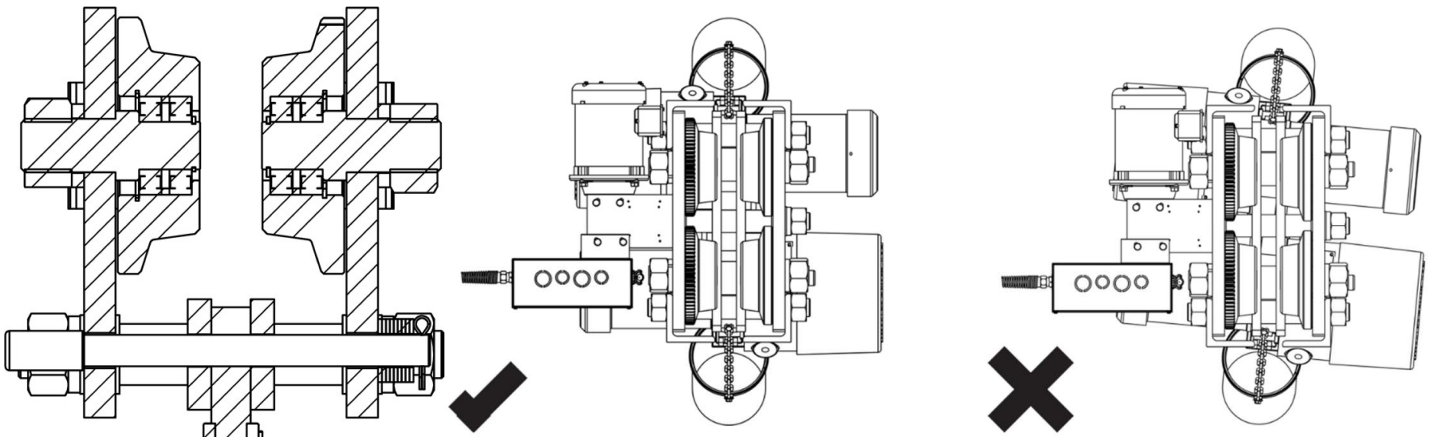

Figure 3.2.4
1. Load pins go through the entire trolley (see figure 3.2.4). Insert the load pin by its narrow end through the trolley's side plates and load plates and the hoist's lug. Insert the provided washers on the narrow end, then insert and open the provided cotter pin to hold everything in place.